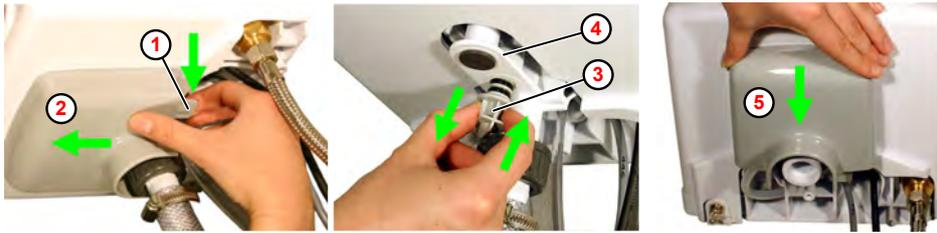

Fig. 13: Funnel lock
1. Pull the safety latch ( Fig. 13 , ① ) downwards.
2. Slide the funnel lock ② forwards/remove.